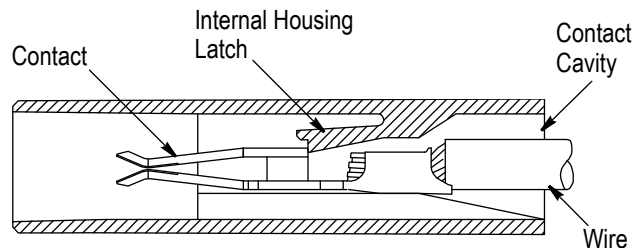

Figure 3
1. Align crimped contact with the appropriate contact cavity in the plug housing so that the top of the contact slides against the internal housing latch. Refer to Figure 3.